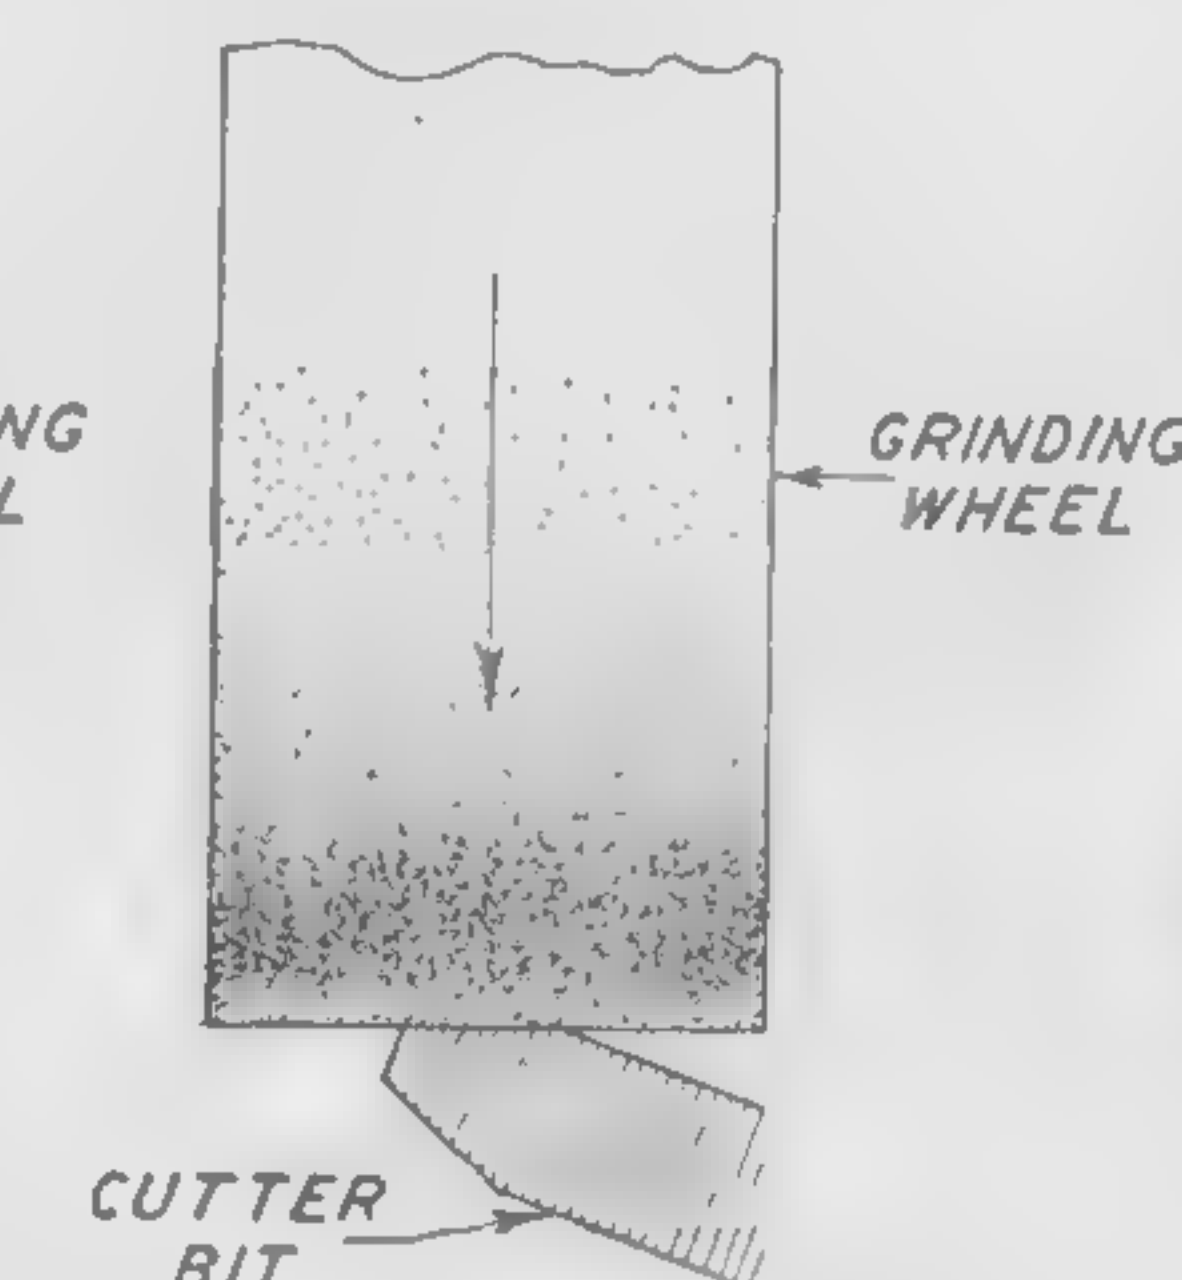

Fig. 28. Step 2—
Step 2. Grind the right side of the tool, holding it in the correct position, Fig. 28, until it is nearly at a point. This will depend on the radius it is to have on the point.